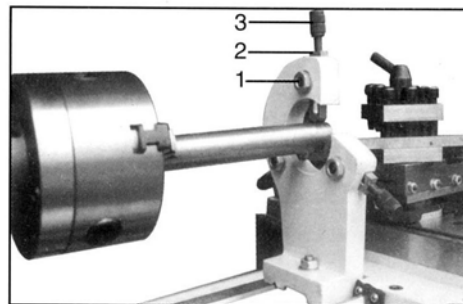

Fig.28
1. Loosen three hex nuts(1, Fig.28)
2. Loosen knurled screw(3, Fig.28) and open the sliding fingers(2, Fig.28) until the steady rest can be moved with its fingers around the workpiece. Secure the steady rest in position.
3. Tighten knurled screws so that fingers are snug but not tight against the workpiece. Tighten three nuts(1, Fig.28). lubricate the sliding points with machine oil.